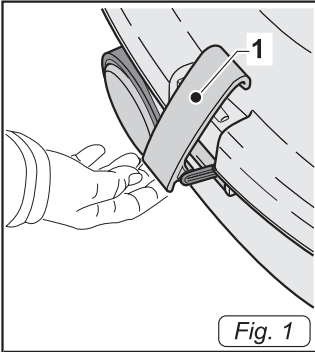
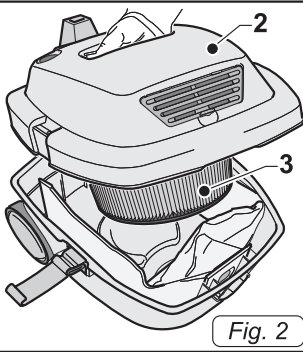

Fig. 1
Fig. 2
- Release the levers (1 Fig.1) and remove the cover (2 Fig.2) complete with the motor unit and cartridge filter (3 Fig.2).
- Replace the cover and lock it using the levers (1 Fig.1).
- Release the levers (1 Fig.1) and remove the cover (2 Fig.2) complete with the motor and the cartridge filter (3 Fig.2).
- Release the levers (1 Fig.1) and remove the cover (2 Fig.2) complete with the motor cartridge filter (3 Fig.2).